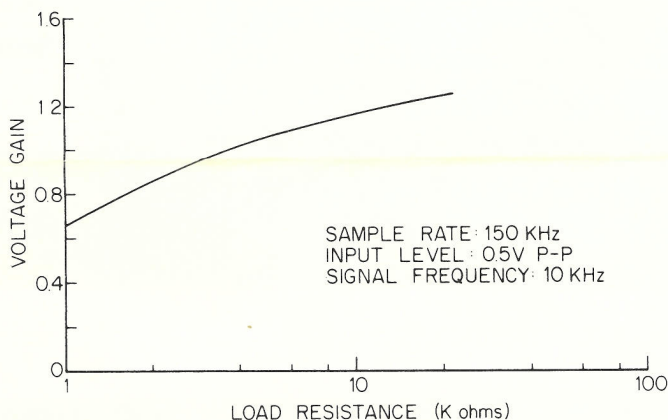

Figure 4. Dependence of Gain on Load Resistance.
2. The value of gain depends on the output termination resistance. See Figure 4.